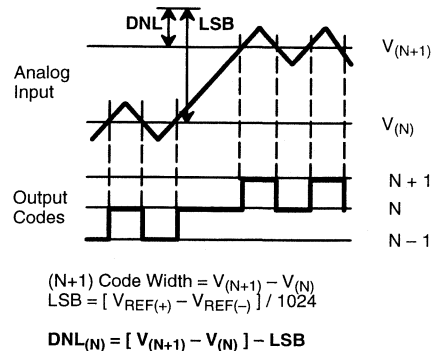

Figure 5. DNL Measurement On Production Tester
- 2 Tester measures code transition voltages by dithering the voltage of the analog input (V_{IN}). The difference between the measured code width and the ideal value (V_{REF}/1024) is the DNL error (see Figure 5). The INL error is the maximum distance (in LSBs) from the best fit line to any transition voltage (See Figure 7).